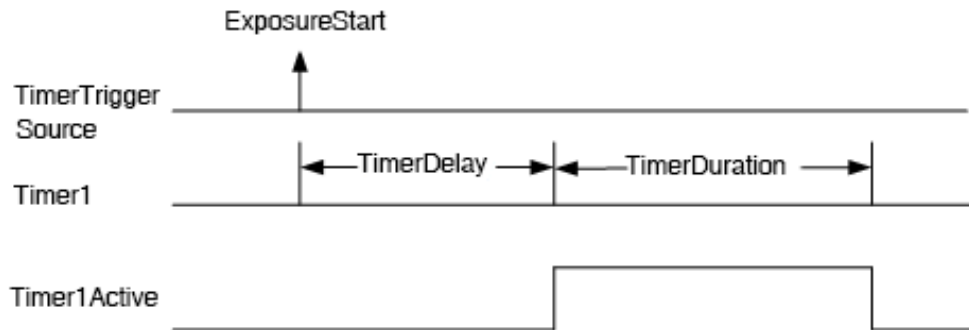

Figure 8-64 The schematic diagram of Timer1Active
- From the start of the timer to the full output of Timer1Active, this process will not be interrupted by the *ExposureStart* signal, and Timer1Active must be completely output to start timing according to the next *ExposureStart* signal. As shown in the Figure 8-64, the red *ExposureStart* signals are ignored.